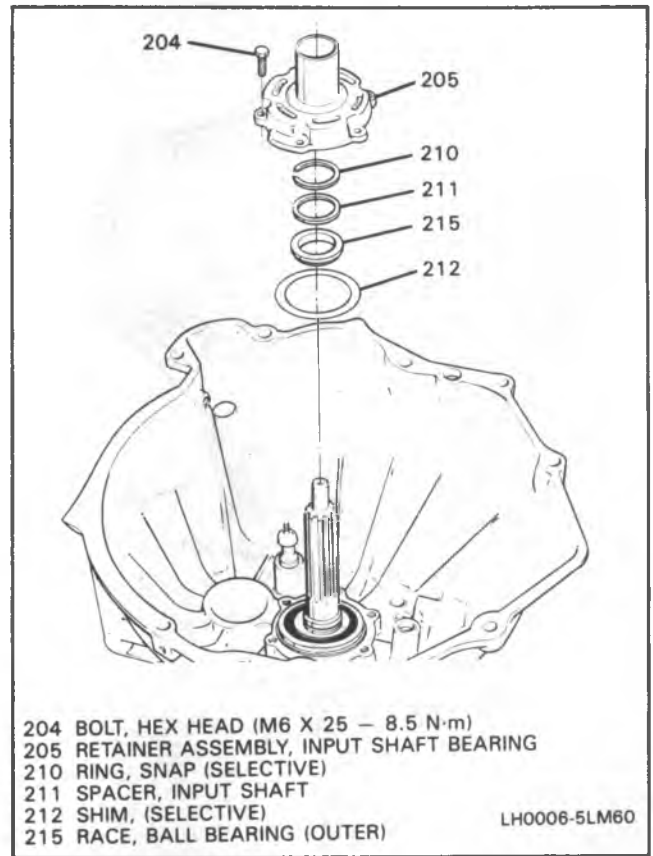

Figure 6 Removing Input Shaft Bearing Retainer Assembly
7. Six bolts (204) and input shaft bearing retainer assembly (205) (Figure 6).
- Save the input bearing retainer washer (208).